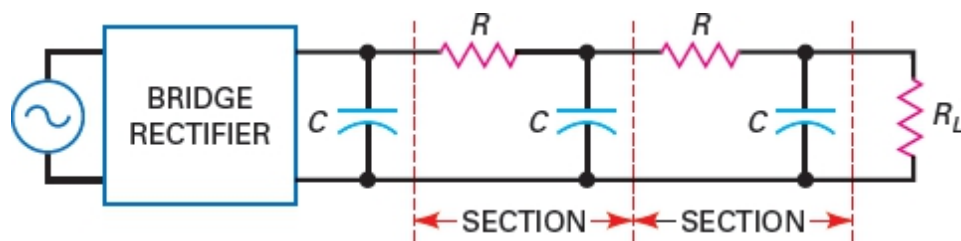

Figure-67 RC filtering
- Figure-67 shows a bridge rectifier and a capacitor-input filter. Usually, a designer will settle for a peak-to-peak ripple of as much as 10 percent across the filter capacitor. The reason for not trying